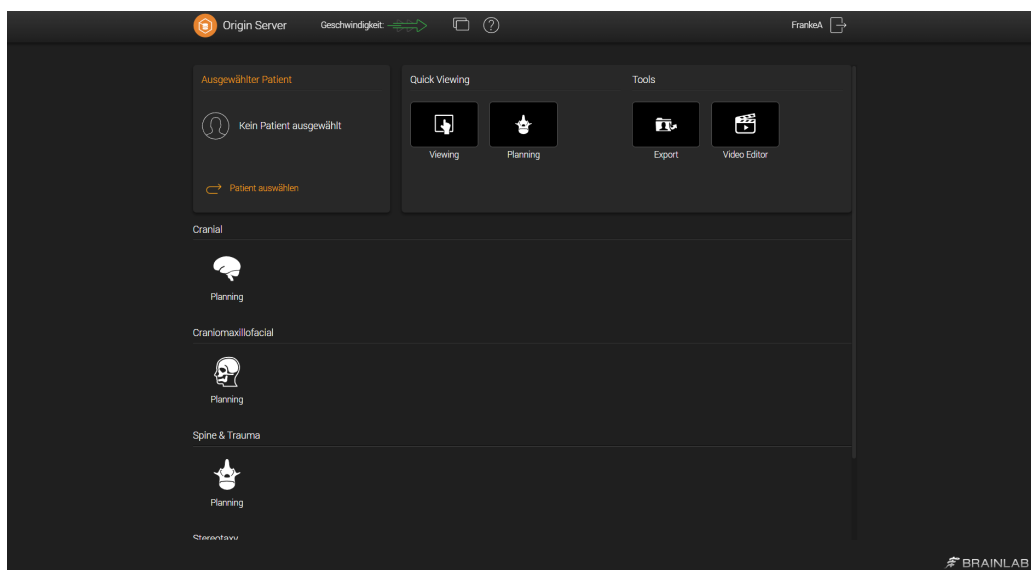

Figure 1 Screenshot of the Origin Server Interface for Brainlab.
1. Opening of the Remote Desktop Control of the Brainlab User Interface via Origin Server with any recent version of a web browser (Fig. 1).